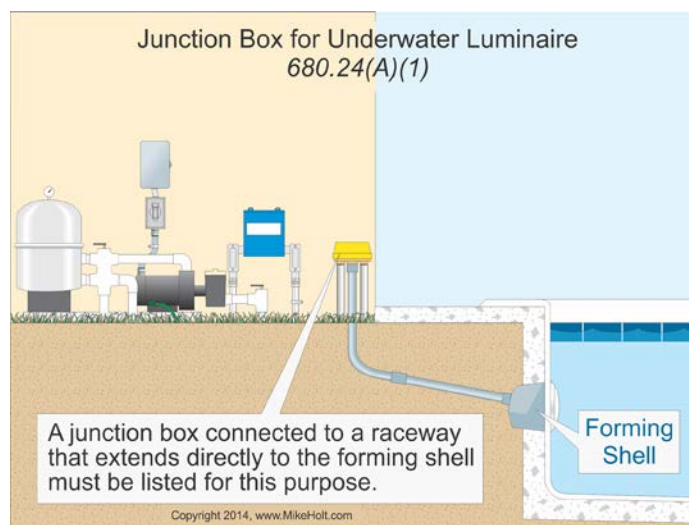

Figure 680-34
(1) Construction. The junction box must be listed as a swimming pool junction box, and must be: Figure 680-34